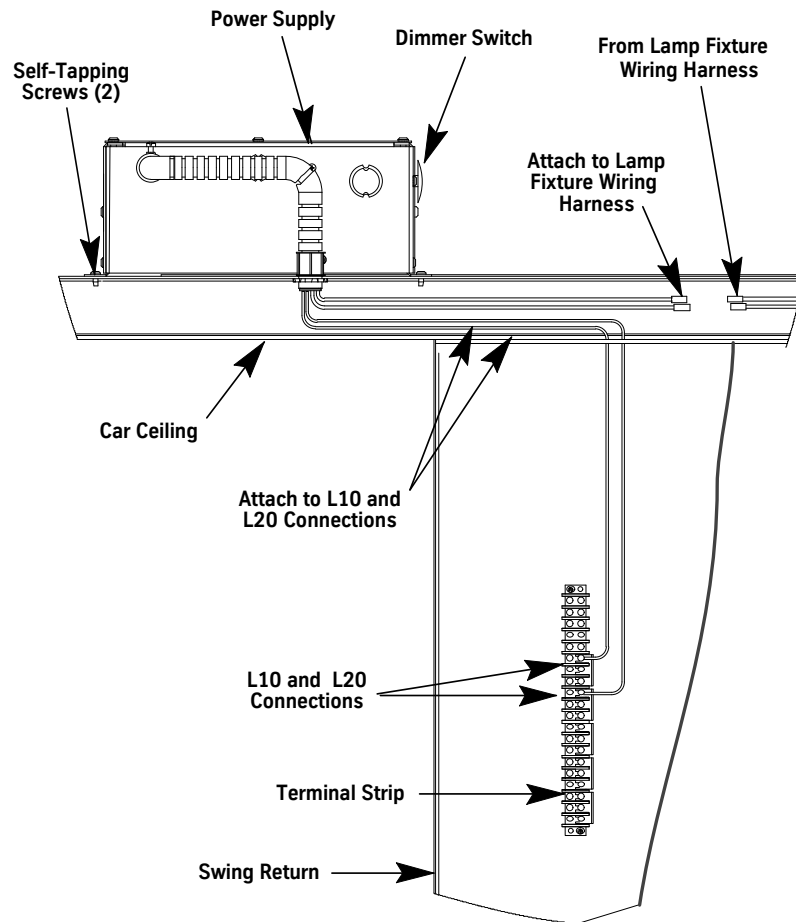

Figure 2 - Power Supply with Harness
2. Locate the two (2) plugs on the end of the lamp fixture wiring harness (which are already connected to the halogen lamps).
3. Route these wires to the harness coming from the power supply. See Figure 2 on page 9 for this and all steps in the following procedure.